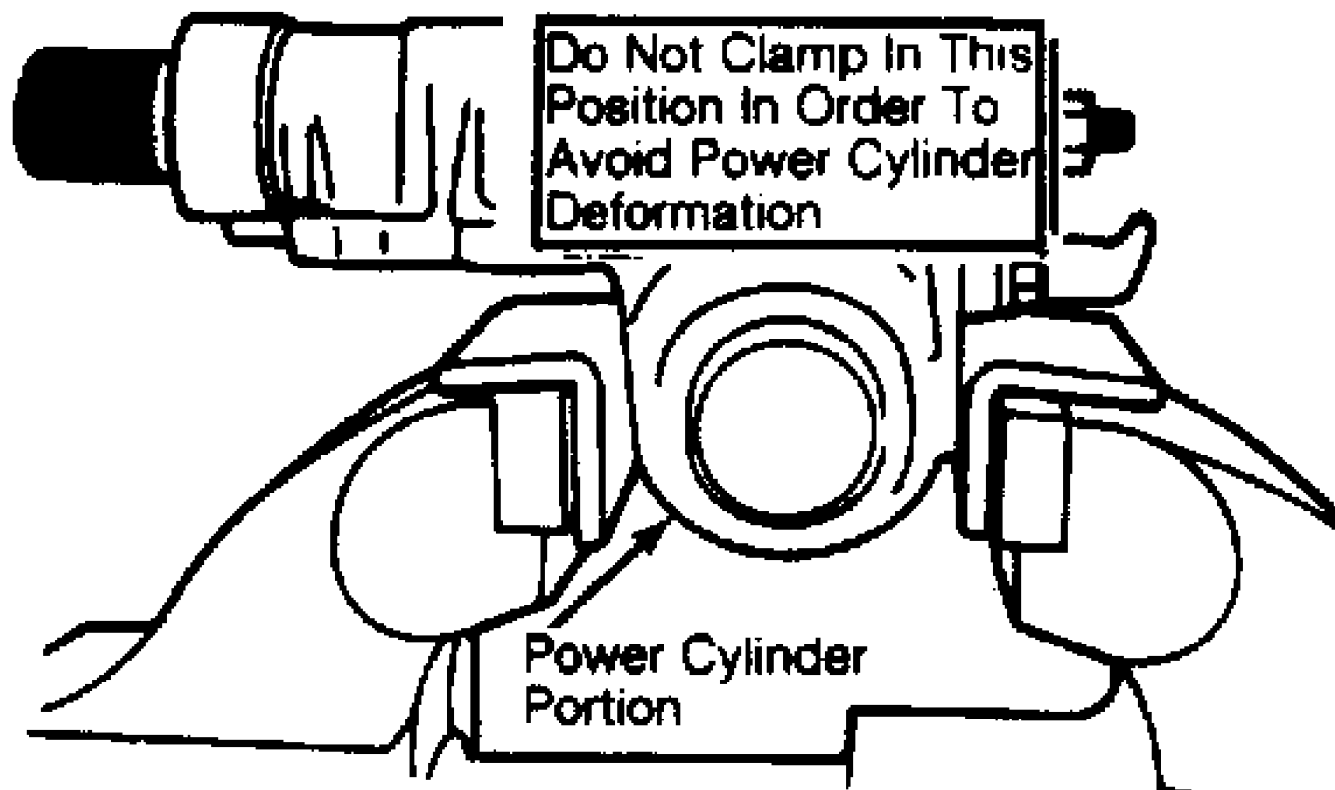

Fig. 3: Incorrect Clamping of Power Steering Gear Assembly
1) Mount steering gear assembly in vise. See Fig. 3. Remove dust cover from stub shaft. Ensure clean faces of stub shaft extend outward. Remove retaining ring and back-up ring.